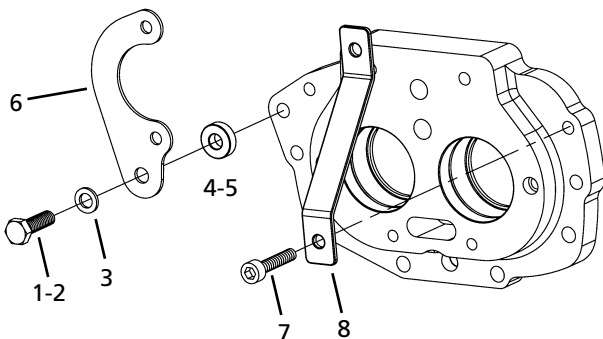

Figure 3
3. Starter-Battery Box Bracket Kit, 57-4606. **See Figure 3 on pg 7.**